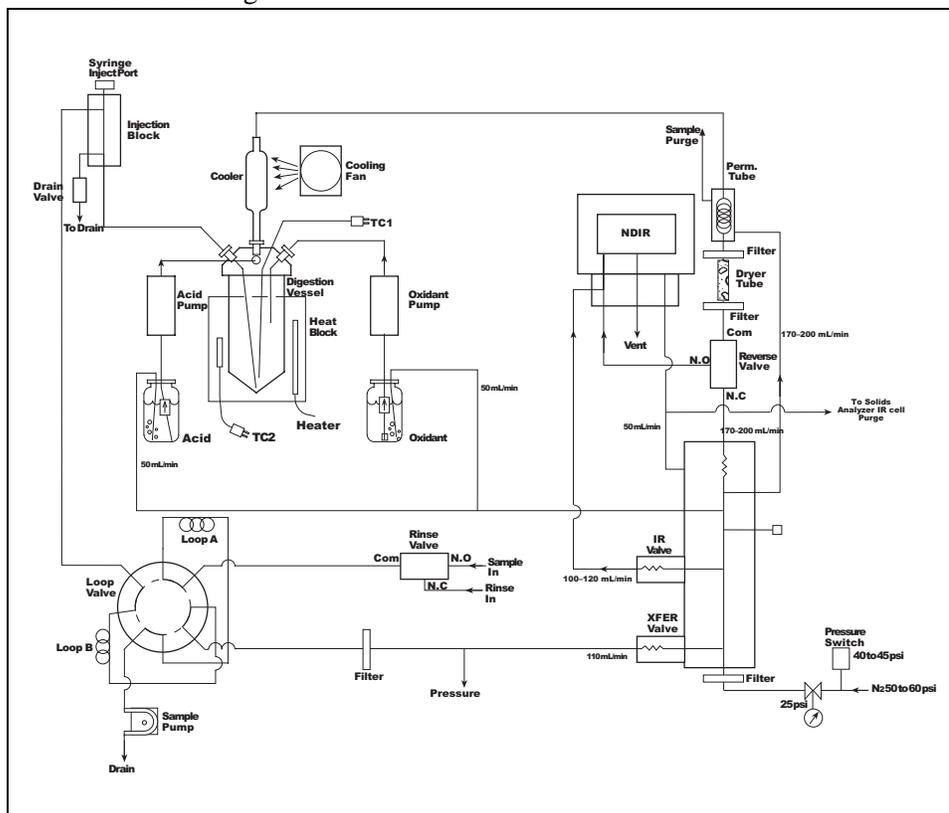

Figure 7.1. Model 1010 flow diagram
- Verify that the plug at the vent, labeled (6) in the flow diagram (Figure 7.1.), is not leaking.